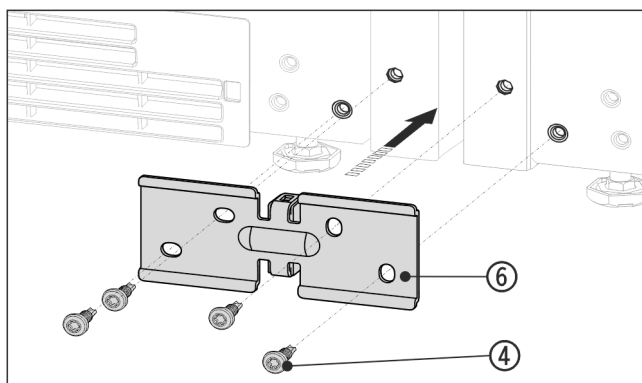

Fig. 14 Example illustration
- Slide the bracket *Fig. 14 (6)* with the spacer between the appliances and loosely screw on with 4 screws *Fig. 14 (4)*.